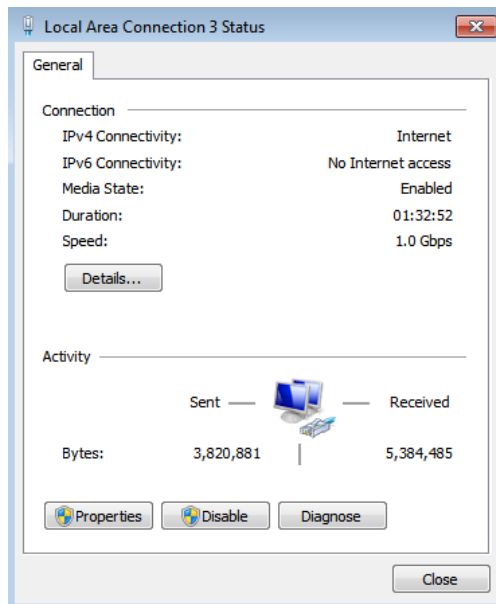

Figure 39: Local Area Connection Status
- b) Click on **Connections: Local Area Connection 3** to open the Network Adapter Settings as shown in Figure 39. If multiple networks are shown, select the one corresponding to the ethernet port you like to use. When in doubt ask the local network administrator.